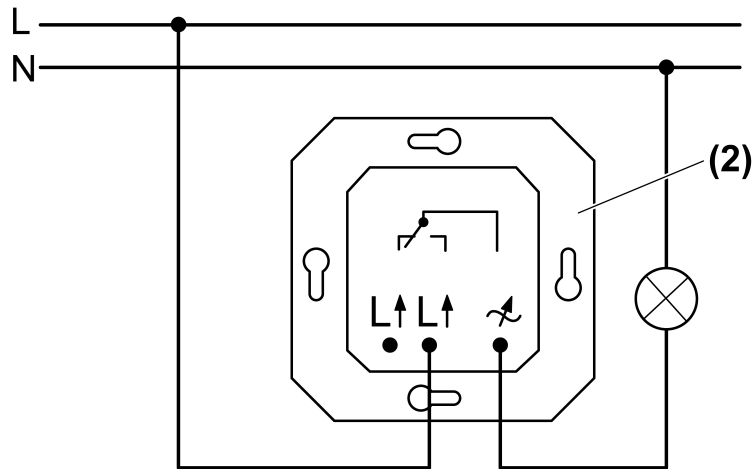

Figure 2: Connection diagram
- Connect the dimmer (2) according to the connection diagram (Figure 2).